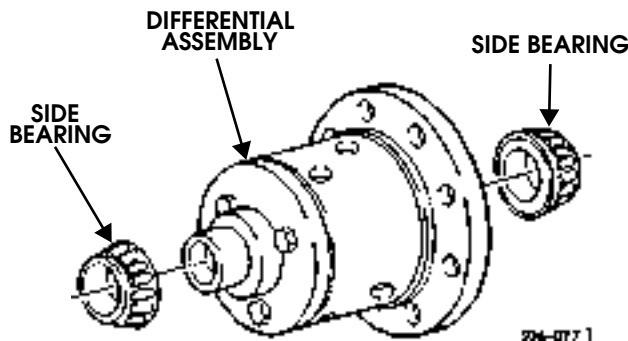

Figure 9-92: Side Bearing Installation
31. Install two side bearings on differential assembly (Figure 9-92).